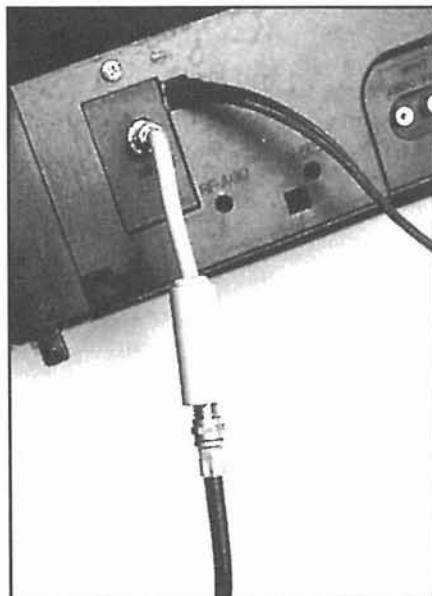

Figure 7.10
If the interference results from medium-frequency (MF) or high-frequency (HF) operation (signals below 30 MHz), the solution to the problem may be as simple as the installation of a differential-mode, high-pass filter in the cable that feeds the set-top converter. Figure 7.10 shows one way to do this. Even if this filter doesn't cure the interference, leave it in place, at least for the time being. Caution: this filter is not compatible with most two-way systems. It will filter out all signals from 5 to 40 MHz!